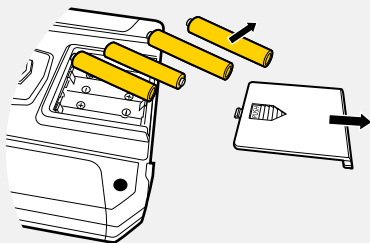

Fig. 11
1. Turn the »Transmitter off, open the battery compartment and remove the batteries (see [\[Fig. 11\]](#)).